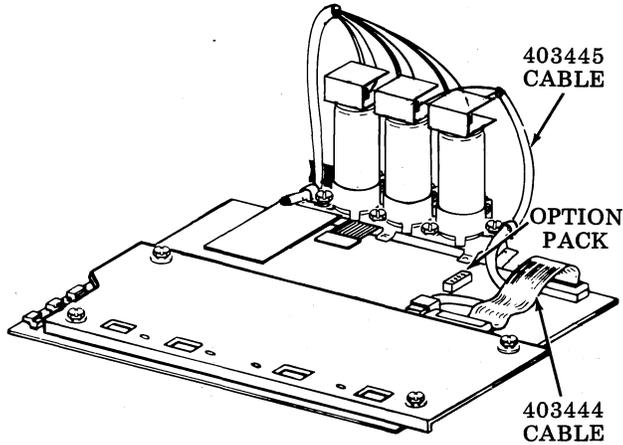

Fig. 4—403444 and 403445 Cables
2.05 Before reinstalling the printer, examine all cable connections inside the cabinet and make sure they are secure. Examine position of 403445 cable — it must be tucked under the flat 403444 cable (Fig. 4).